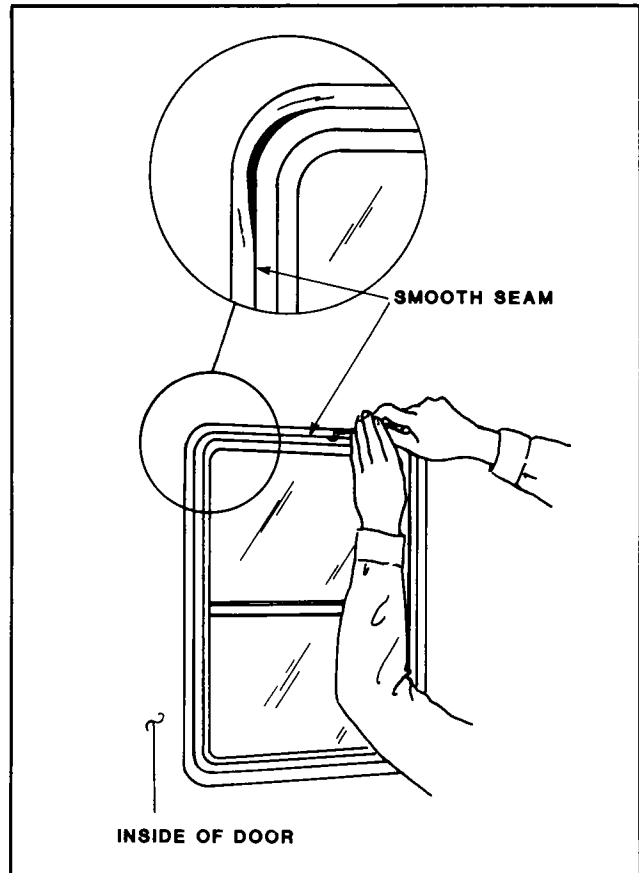

Figure 16. Lacing Window
6. Use the modified cotter pin extractor to re-lace the seal (tuck the flap back in) as shown in figure 16. Be careful not to tuck the flap in too far as it will leak. The surface seam should be smooth when properly laced.